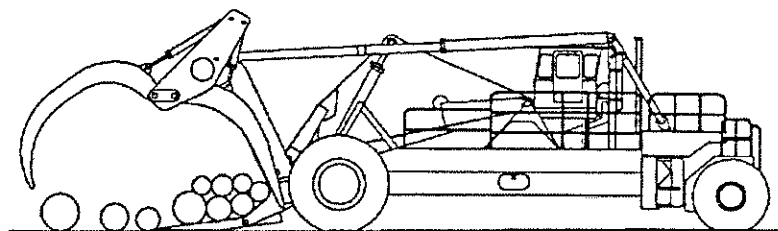

Fig 4-10
4. When retrieving spread logs and the last one is beyond the ends of the tines, extra reach can be gained by tilting the carriage forward. This places the holddown arms in a position to rake the logs onto the tines. The distance the top of the carriage extends forward is the extra reach gained at the tip of the holddown arms. See Fig. 4-10.